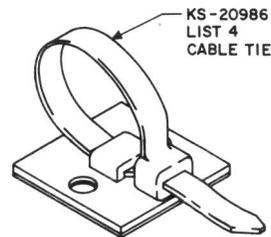

Fig. 9—E Adhesive Cable Tie
6.02 **Adhesive cable ties** are intended for use where mounting by adhesion may be desirable or the only acceptable means. The E adhesive cable tie (Fig. 9) replaces both the B adhesive cable tie and the C adhesive cable tie.